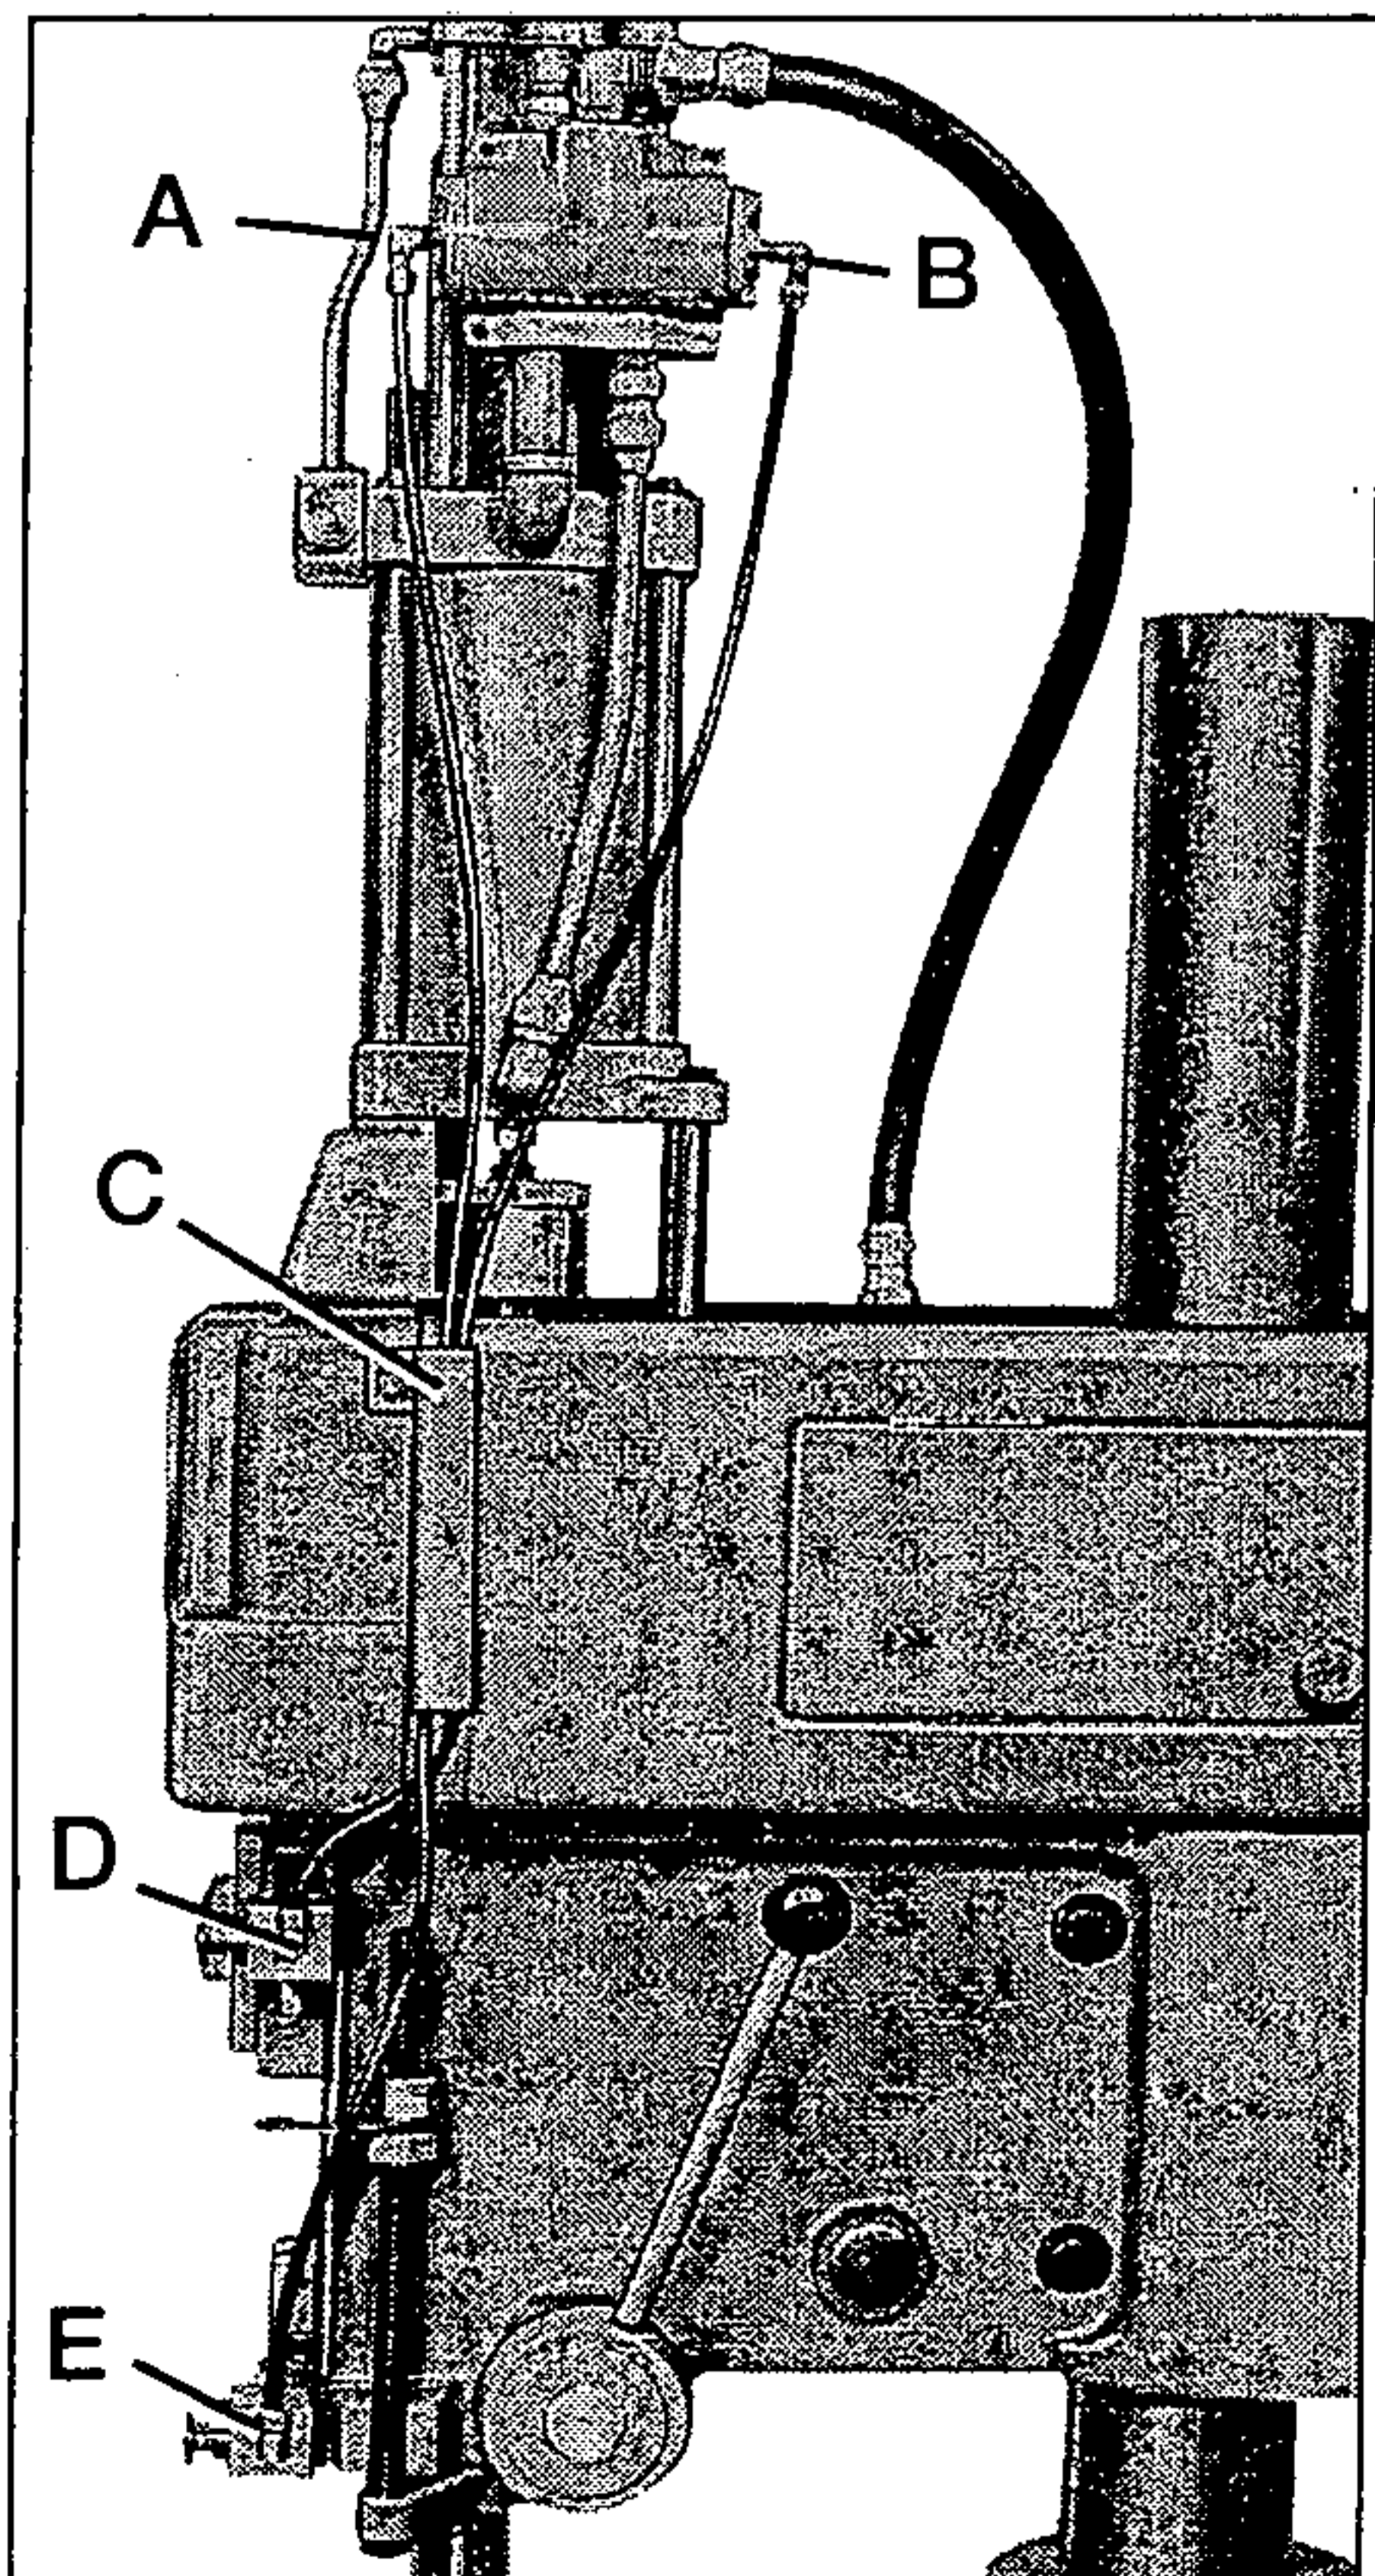

Figure 14
25. Slide two hoses thru channel (C, fig. 14).